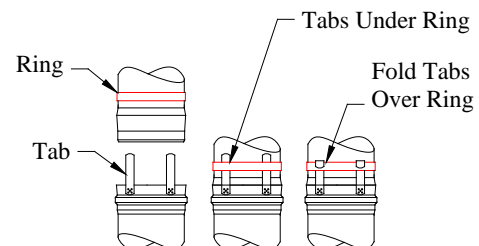

Fig 5. (Ring and Tab Connection)
1. Connect parts using the Ring and Tab Connection Method. See Fig 5.